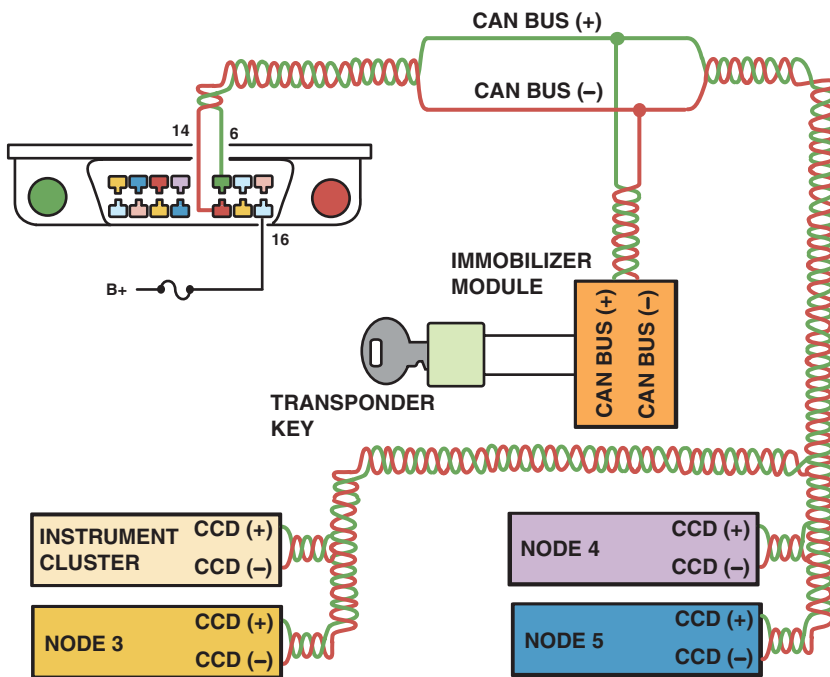

FIGURE 14-20 A typical (generic) system showing how the CAN BUS is connected to various electrical accessories and systems in the vehicle.
- **CAN C.** This class is the highest speed CAN protocol with speeds up to 500 Kbs. Beginning with 2008 models, all vehicles sold in the United States must use CAN BUS for scan tool communications. Most vehicle manufacturers started using CAN in older models; and it is easy to determine if a vehicle is equipped with CAN. The CAN BUS communicates to the scan tool through terminals 6 and 14 of the DLC indicating that the vehicle is equipped with CAN. ● **SEE FIGURE 14-20.**